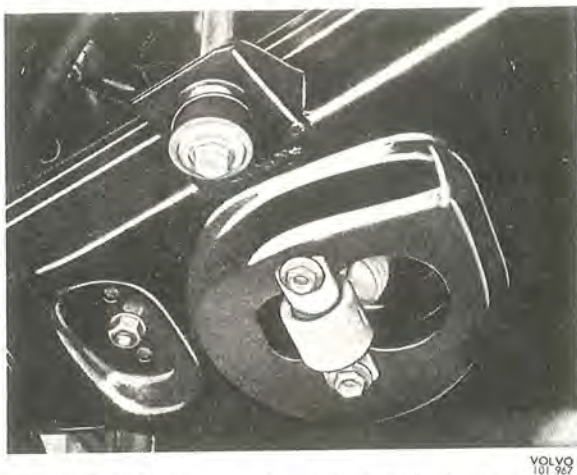

Fig. 7-8. Lower attachment, front shock absorber
The lower attachment (Fig. 7-8) consists of an eyelet provided with a rubber bush, which cannot be dismantled and a piece of tubular piping, the flattened ends of which are screwed to the bottom side of the lower wishbone.
2. Remove the two lower attaching screws (Fig. 7-8)